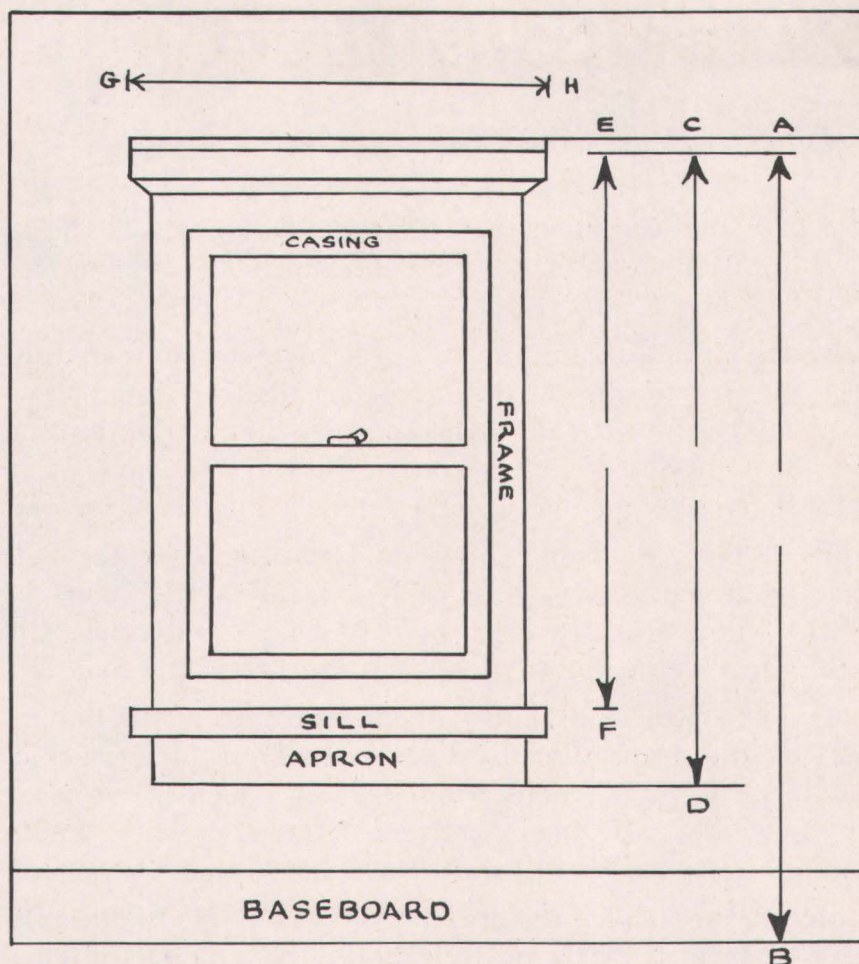

FIGURE 1
2. For LENGTH measure from rod to the floor (Figure 1, A-B) or to the bottom of the window "apron" (C-D), or to the sill of the window frame (E-F).
3. Be generous in WIDTH. Allow 100% or more fullness, which means a full width of drapery material at each side of a normal-size window. (Figure 1, G-H)